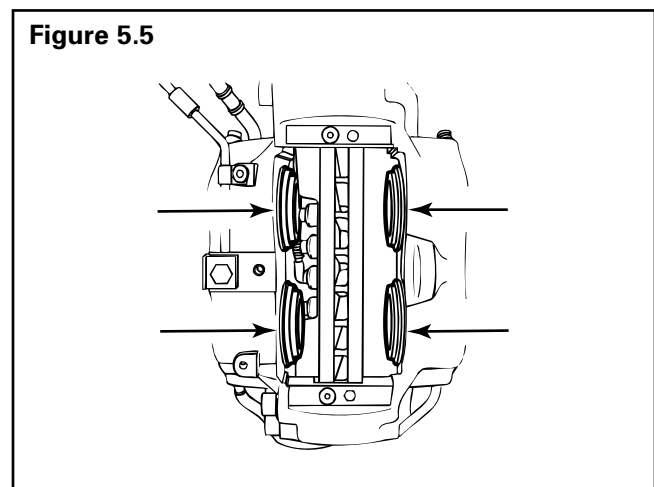

Figure 5.6
2. To install, reverse the removal process. **Figures 5.6 and 5.7.**